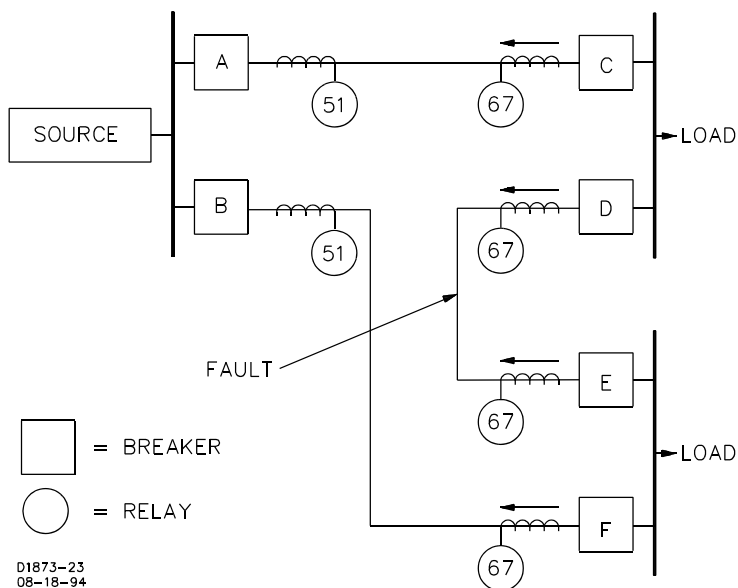

Figure 1-5. Substations Fed From One Source
With directional time overcurrent relays, the settings and time delays can be decreased and the undesired tripping eliminated. Figure 1-5 illustrates the use of directional overcurrent relays on a group of interconnected distribution substations fed from a common source. In this example, non-directional overcurrent relays (51) are used to protect the lines leaving the supply bus, because there is only one source of fault current. However, the breakers at the load buses (C, D, E, and F) are protected by directional time overcurrent relays (67) to prevent overtripping in the event of a fault. This will remove the faulted line and retain service to the connected loads.